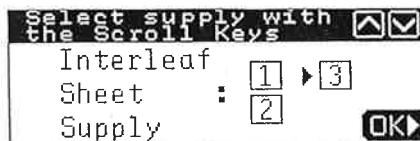

Figure 1-24
- The display shown in Figure 1-24 represents the following: